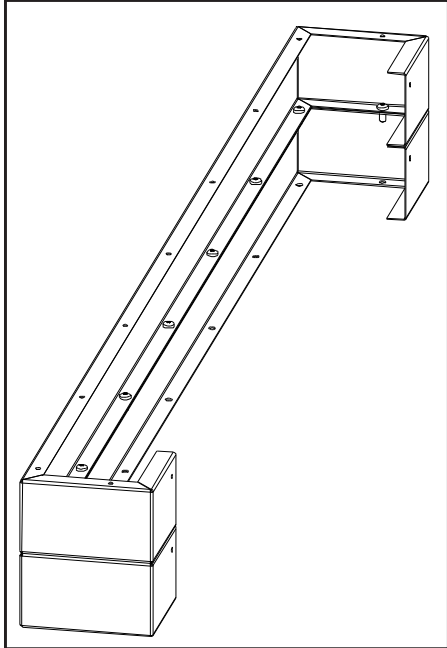

Figure 29: Combining 2 Base Shelf Risers.
2. When using more than one riser each level must be attached using nine (9) #8 T-20 screws provided (see Figure 29).